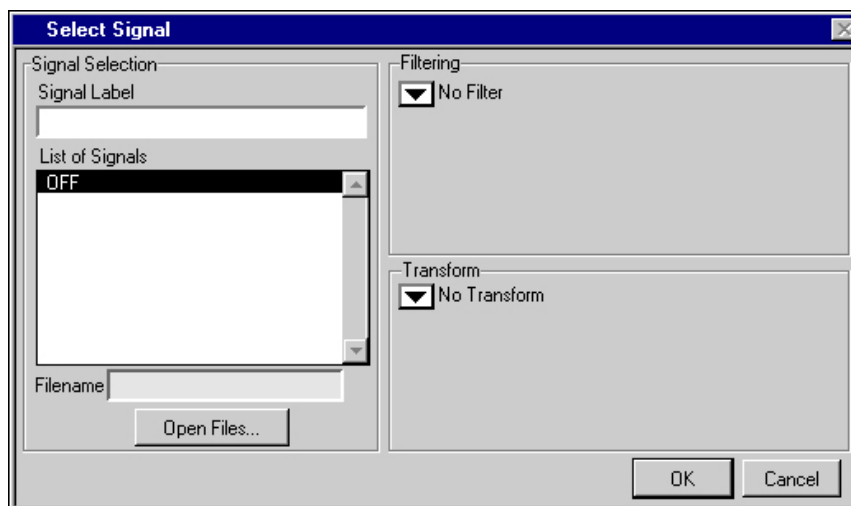

Figure B-17. Select Signal Dialog Box
- Assign a signal to be displayed in the top graph by clicking on the signal label located in the upper left corner of the top graph. (The OFF signal label appears when no data is displayed.) The Select Signal dialog box appears, as shown in Figure B-17.